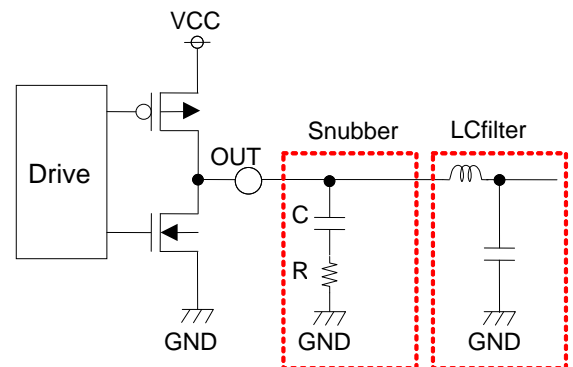

Figure 81. snubber schematic
- ① Measure the spike resonance frequency f_1 of the PWM output wave shape (When it stands up.) by using FET probe in the OUT terminal. (Figure 81) The FET probe is to monitor very near pin and shorten ground lead at the time of that.
- ② Measure resonance frequency f_2 of the spike as a snubber circuit fixed number $R=0\Omega$ (Only with the condenser C, to connect GND) At this time, the value of the condenser C is adjusted until it becomes half of the frequency ($2f_2=f_1$) of the resonance frequency f_1 of ①. The value of C which it could get here is three times of the parasitic capacity C_p that a spike is formed. ($C=3C_p$)
- ③ Parasitic inductance L_p is looked for at the next formula.